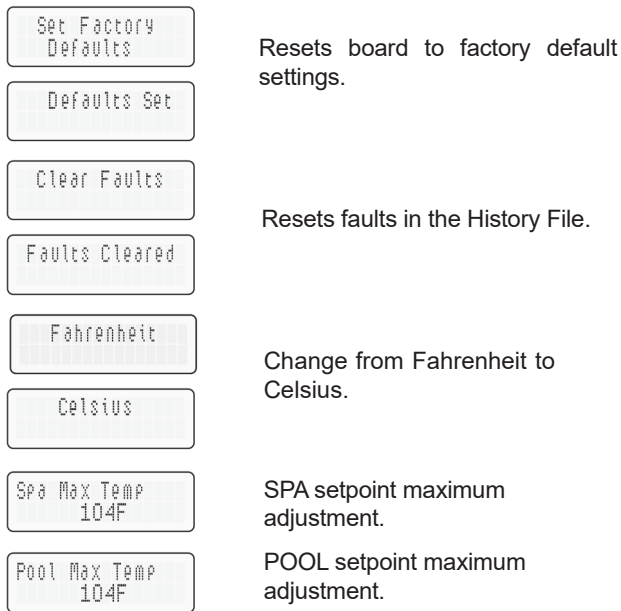

Figure 45. Programmable Events
2. Press the MODE button sequentially until the desired program event is reached. There are 5 different events that can be programmed. They appear in the sequence listed in **Figure 45** below.